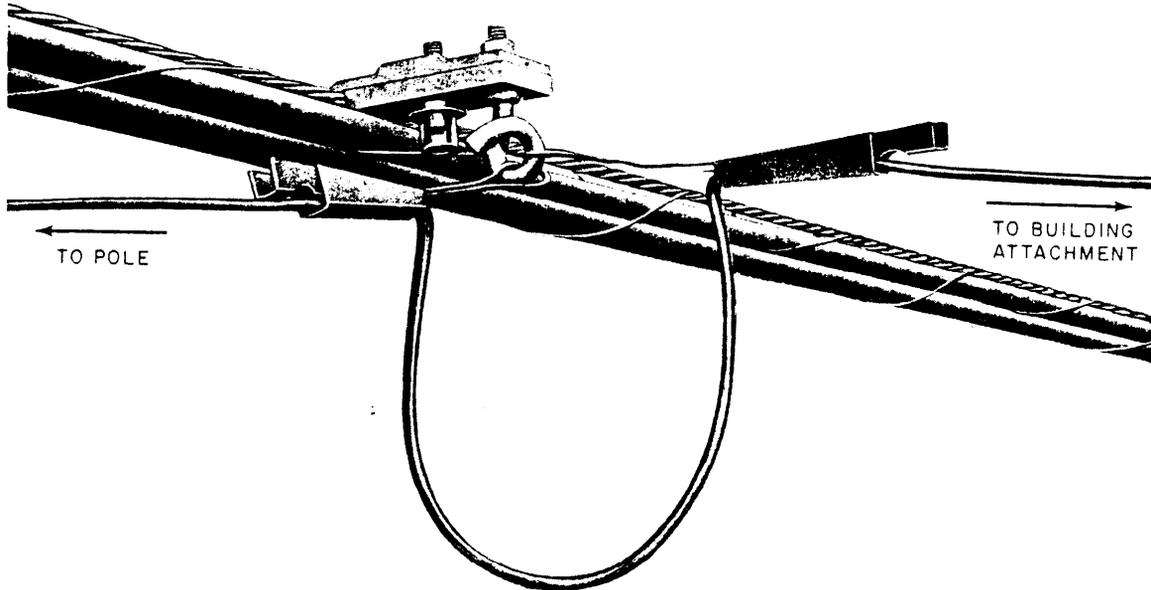

Fig. 34-Completed F Span Clamp Installation
- (11) Remove the B aerial handline from the building attachment and remove the temporarily installed drop wire clamp from the tensioned drop wire to complete the building attachment.
(12) Complete all other pole and building attachments and terminate the drop wire as described in other Sections of the 462 Division. Figure 34 illustrates the completed mid-span clamp attachment. Note the position of the drop wire clamp toward the building. This ensures against accidental disengagement of the drop wire clamp supporting the drop wire toward the pole. Limit F span clamp attachments to two drop wires.